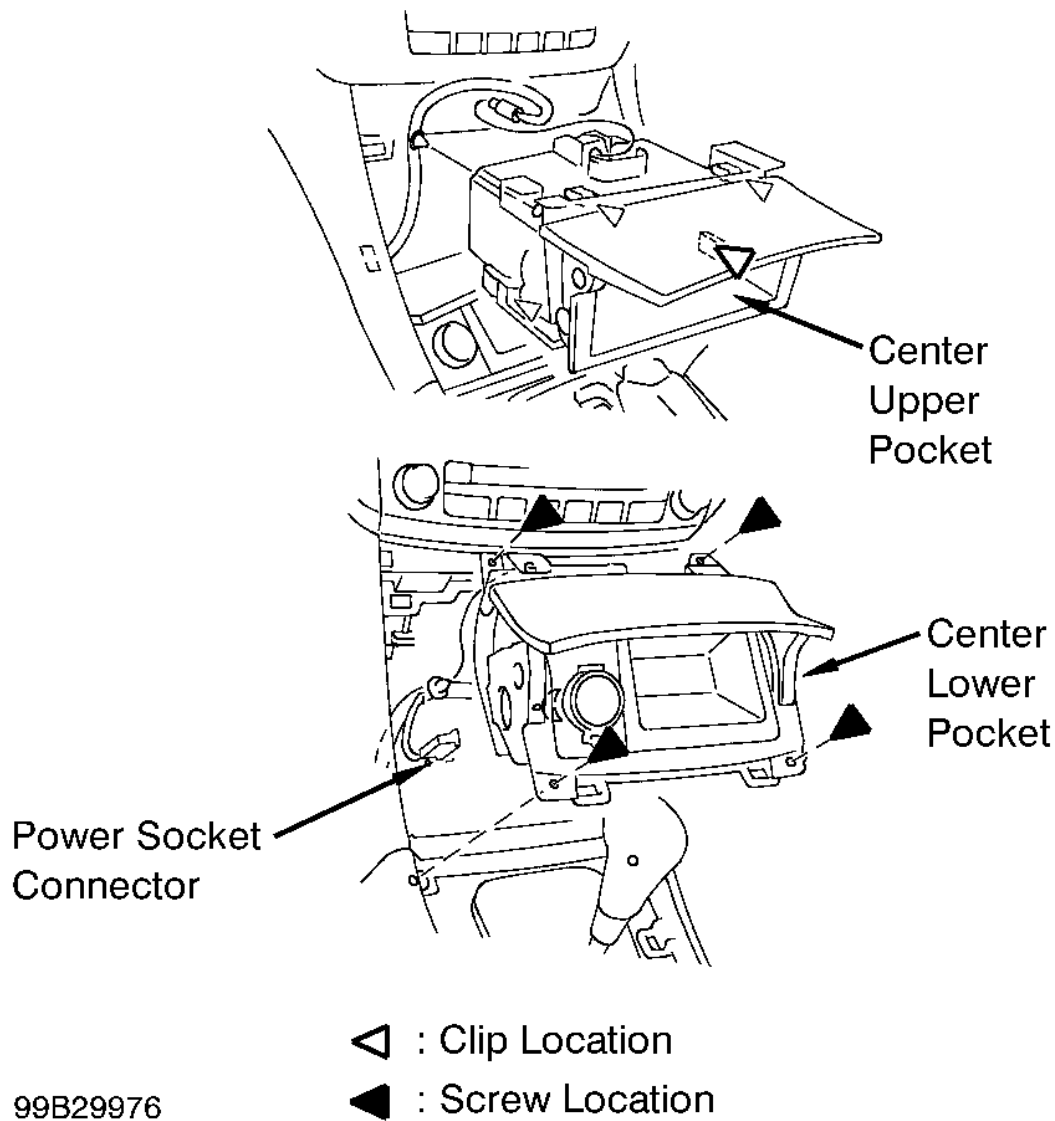

Fig. 13: Identifying Center Upper & Lower Pockets
3. Open center upper pocket lid, then pull at lower edge and detach clips and remove center upper pocket. See **Fig. 13** . Remove screws, disconnect front power socket connector and remove center lower pocket.